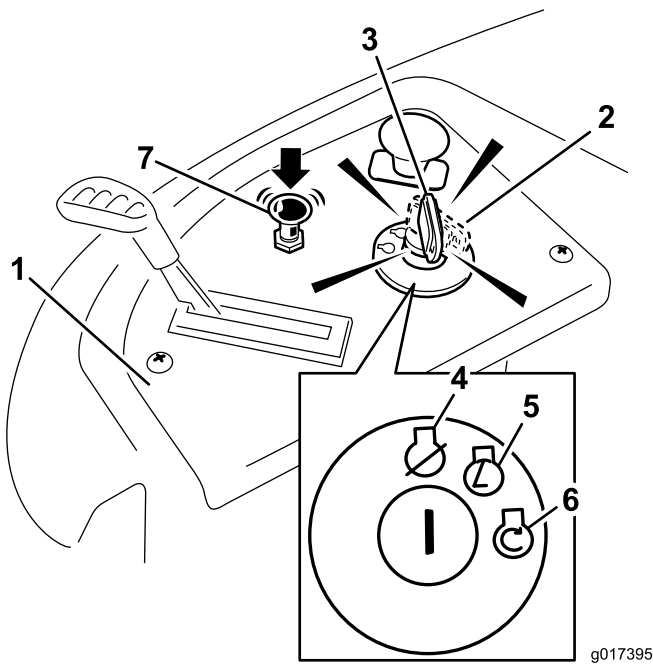

Figure 13
4. Turn the ignition key to Start to energize the starter. When the engine starts, release the key (Figure 13).
5. After the engine starts, push down on the Choke control (Figure 13). If the engine stalls or hesitates, pull up on the Choke control and let the engine run for a few seconds. Then push down on the Choke control. Repeat this as required.
3. Turn the ignition key to Off (Figure 13) and remove the key.